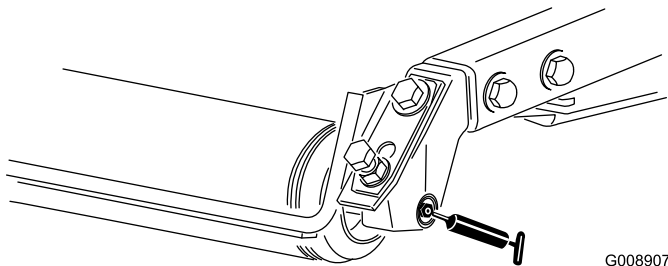

Figure 40
- Rear roller bearings (2 per cutting unit) (Figure 40)